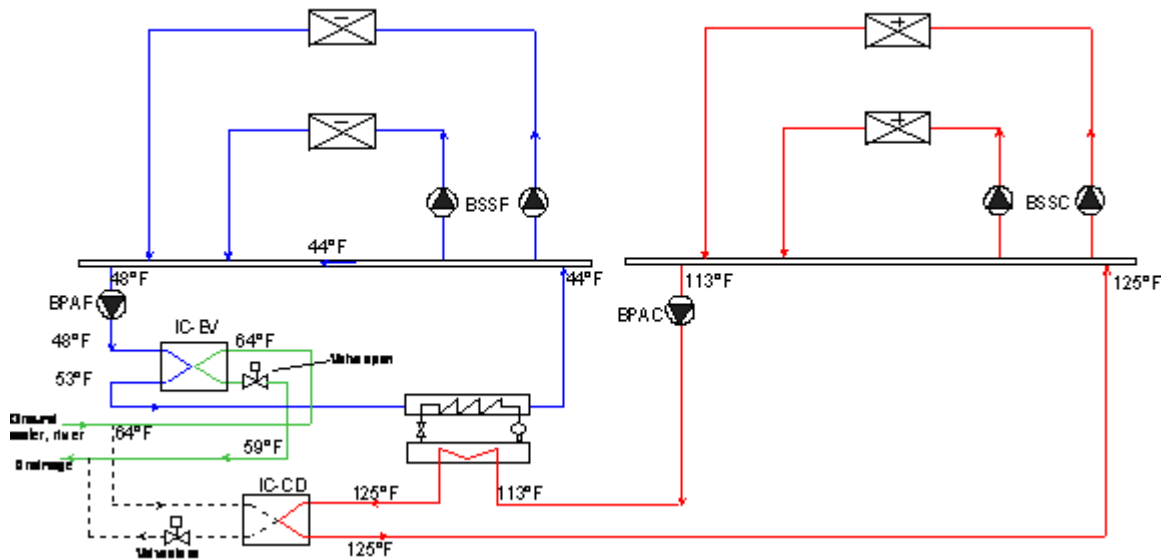

Figure 34. Loop-to-Loop Heat-Pump Heating dominated
4. Heating dominated (Figure 34) – Simultaneous heating and cooling loads exist, with heating being the dominant load. Additional heat from the well loop is made up to the evaporator loop via heat-exchanger IC-EV. The heat-exchanger is controlled to maintain the supply temperature of the chilled-water loop. Since the temperature leaving the evaporator may be substantially lower than in the heating-only mode, the capacity and energy efficiency of the chiller are reduced.